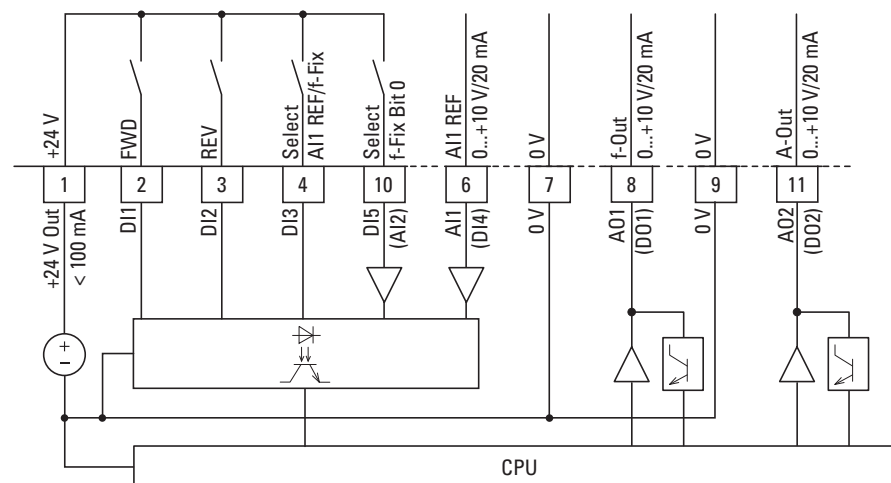

Figure 78: Control signal terminals (digital / analog)
Depending on how parameters P1-12 and P1-13 are set, control signal terminals 6 (AI1) and 10 (AI2) can be connected to analog signals (→ Figure 78):
Analog signals are available at control signal terminals 8 and 11 (→ Figure 78). These outputs can handle a maximum load of 20 mA. The output signals can be selected using parameters P2-11 (AO1) and P2-13 (AO2). Parameters P2-12 (AO1) and P2-14 (AO2) are used to configure the formats for the analog inputs:
Control signal terminals 8 and 11 (→ Figure 78) are configured as analog outputs (AO) by default. Parameters P2-11 and P2-13 can be used to configure them as digital outputs (DO) instead.